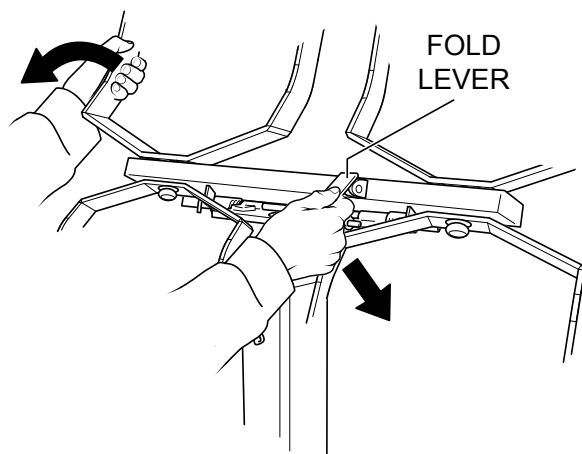

Figure 8. Locking Lamp Stand
2. Pull up the light stand to raise it and push down the fold lever to lock the lamp stand (Figure 8).